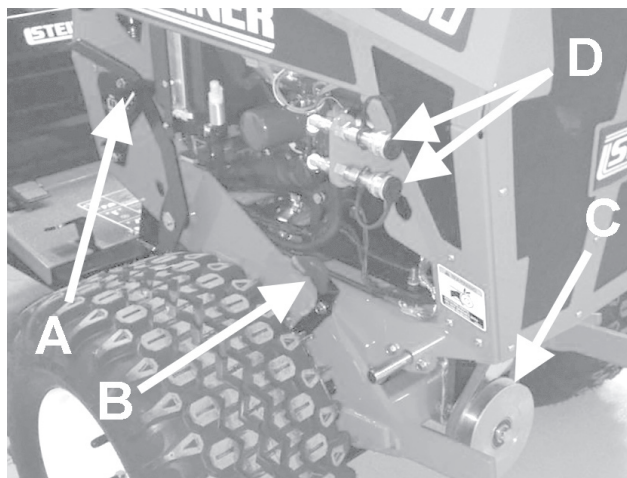

**FIGURE 15**
19. Disconnect the main tractor harness from the soft start module located on the oil cooler bracket. Connect the new harness between the main tractor harness and the soft start module. (Figure 15)
16. Route the harness so that it follows the path of the main tractor wire harness ending up by the hydraulic quick disconnect couplers. Secure the new harness with cable ties as needed. (Figure 15)